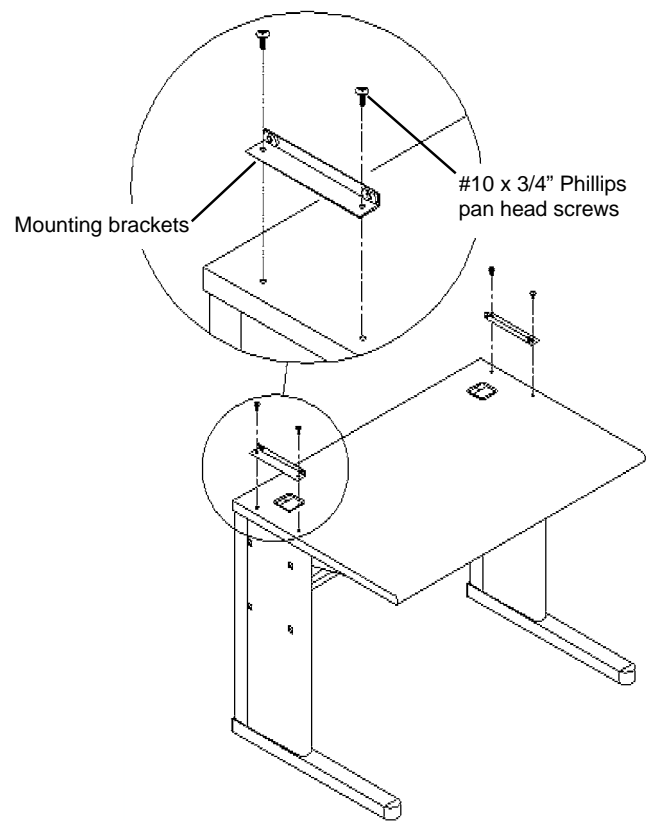

Figure 3
2. Install a **Mounting Bracket** at each corner of the worksurface with the #10 x 3/4" Phillips pan head screws provided. See **Figure 3**.